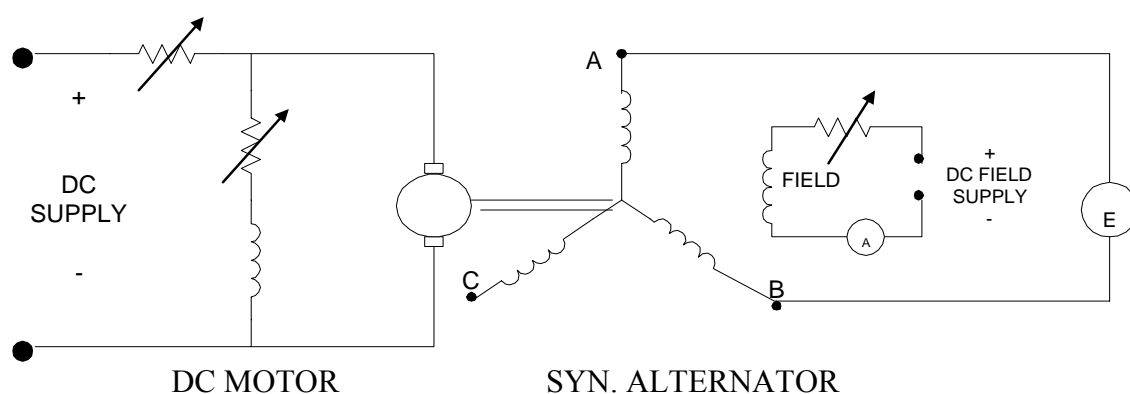

Fig.1: The Open Circuit Test
2. Connect the motor generator set as shown in fig.1 for the open circuit test.